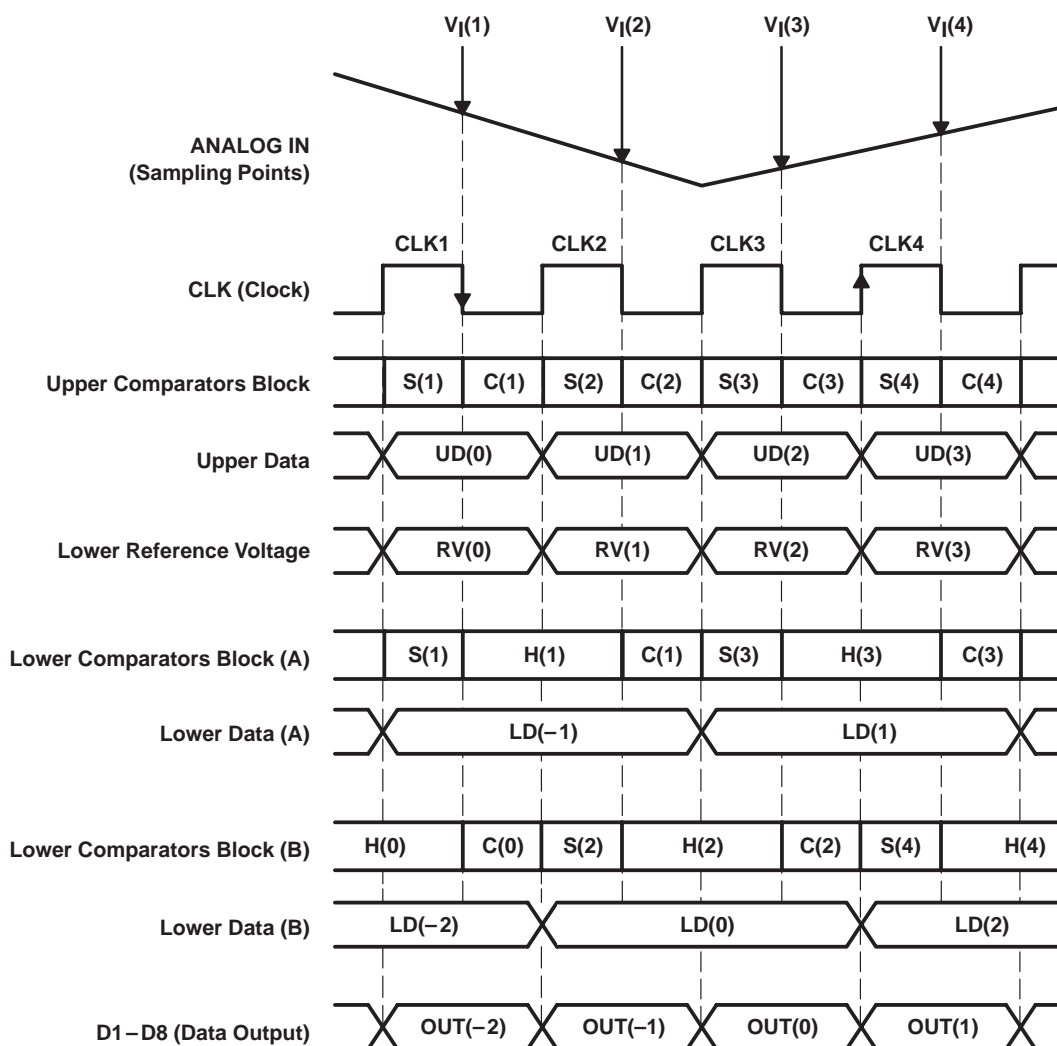

Figure 19. Internal Functional Timing Diagram
As shown in Figure 19, input voltage $V_I(1)$ is sampled with the falling edge of CLK1 to the upper comparators block and the lower comparators block(A), S(1). The upper comparators block finalizes the upper data UD(1) with the rising edge of CLK2, and simultaneously, the lower reference voltage generates the voltage RV(1) corresponding to the upper data. The lower comparators block (A) finalizes the lower data LD(1) with the rising edge of CLK3. UD(1) and LD(1) are combined and output as OUT(1) with the rising edge of CLK4. According to the above internal operation described, output data is delayed 2.5 clocks from the analog input voltage sampling point.
The MSB comparator block converts on the falling edge of each applied clock cycle. The LSB comparator blocks CB-A and CB-B convert on the falling edges of the first and second following clock cycles, respectively. The timing diagram of the conversion algorithm is shown in Figure 19.